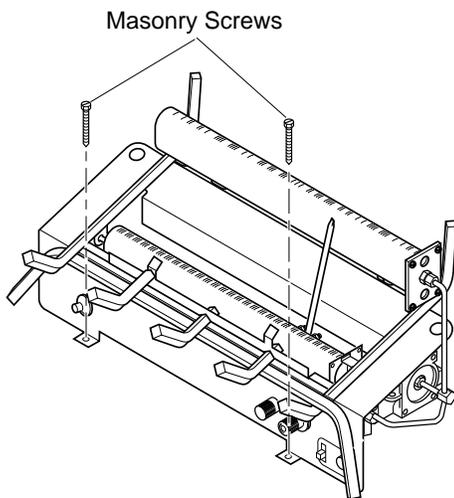

Figure 12 - Attaching Base to Fireplace Floor
3. Mark screw locations through holes in front panel of base (see Figure 12). If installing in a brick-bottom fireplace, mark screw locations in mortar joint of bricks.